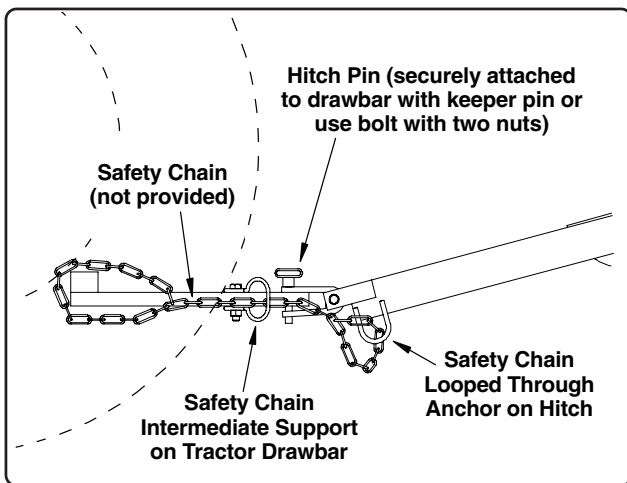

Fig. 3
- Fasten one end of a safety chain (not furnished) to the drawbar on the towing vehicle, and the other end to the loop-anchor welded to the side of the conveyor hitch tube (See Fig. 3).